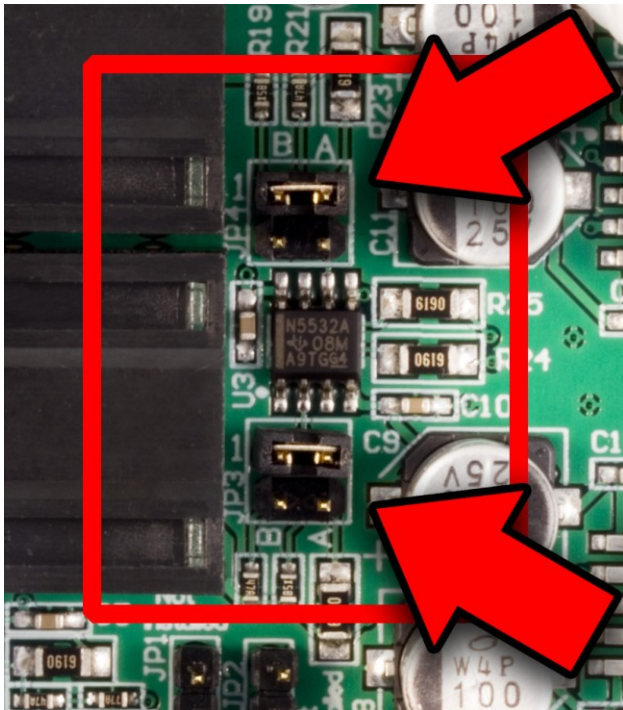

Figure 5 - HPA2™ Gain is -20 dB
- **Gain = -20 dB** - see **Figure 5**